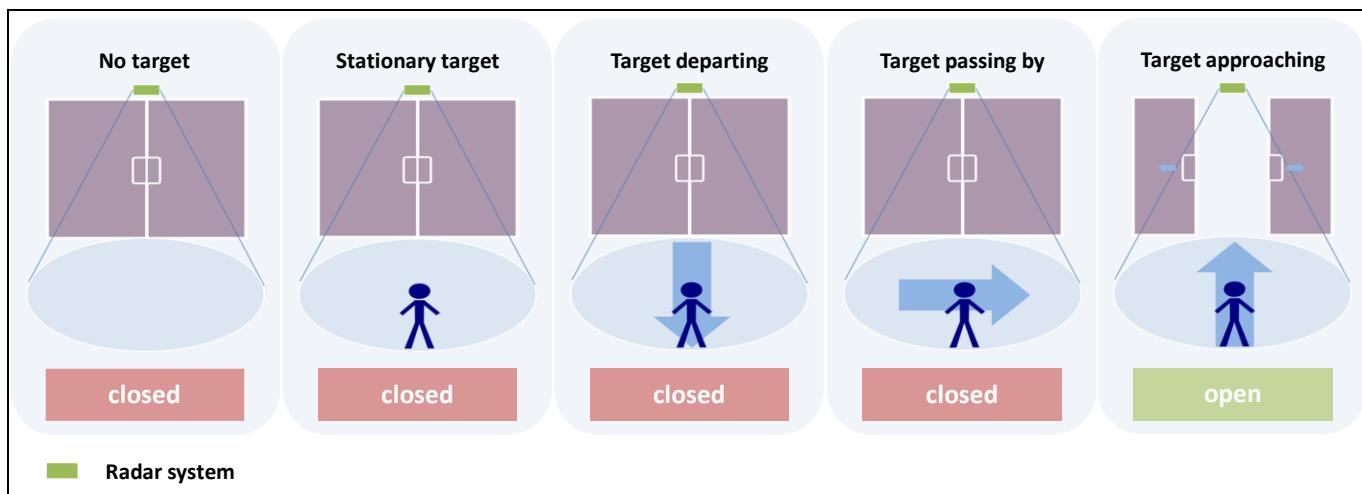

Figure 25 Smart door opener - use-case visualization
- smart door openers based on direction of movement (Figure 25)